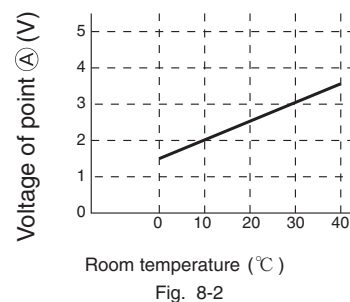

Fig. 8-2
According to room temperature, the voltage of point ① becomes as it is shown in Fig.8-2.